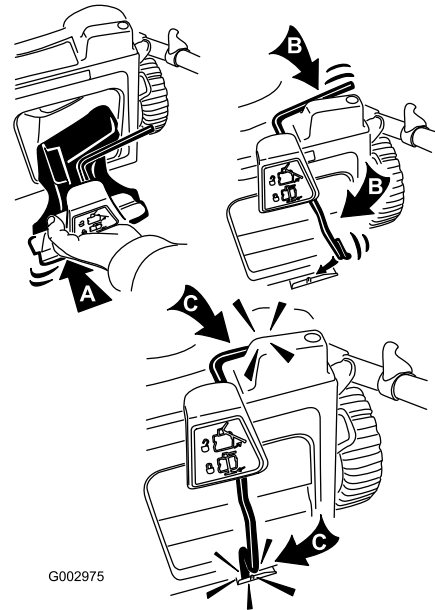

Figure 30
3. Insert the mulch plug and rotate the latch rod until it locks into place at both the top and the bottom (Figure 30).